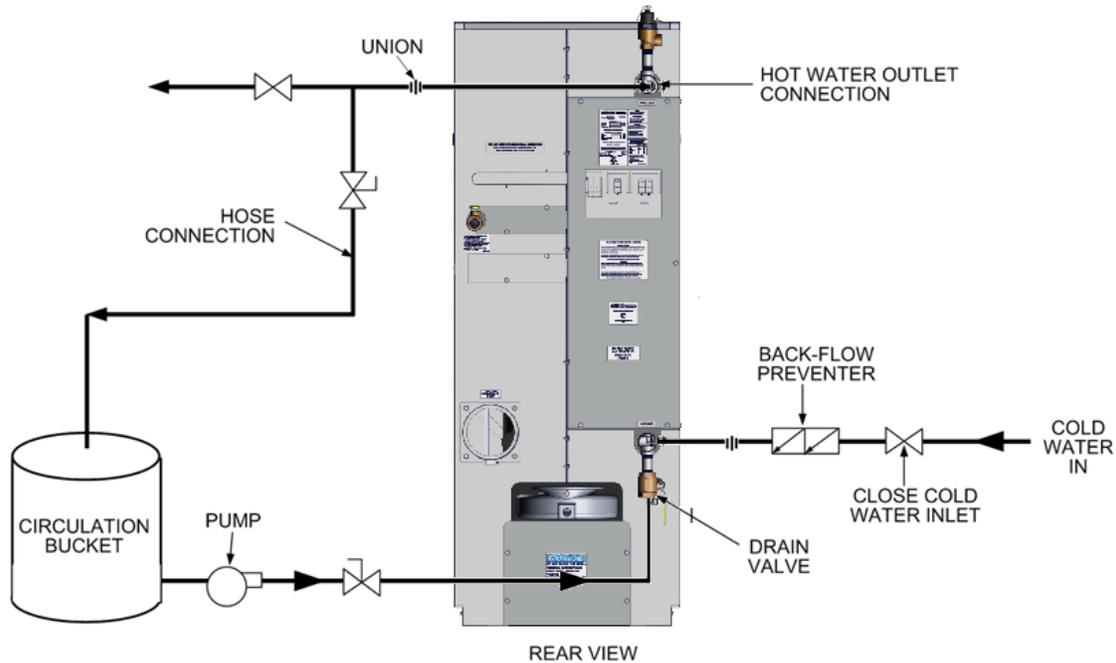

Figure 6-8. Sample Heat Exchanger Cleaning Set-Up
A sample pumping set-up diagram is shown in Figure 6-8 for an Innovation Water Heater. As this diagram shows, heat exchanger cleaning is accomplished by pumping the HydroSkrub solution from a large circulating bucket to the heat exchanger drain valve, through the heat exchanger and then out through the output connection of the heater. Set up the pumping system as follows:
- Close the unit drain valve and connect a suitable size bucket and pump to the unit drain as shown in Figure 6-8.
- Install a “T”, ball valve and hose connection in the outlet piping of the heater (Figure 6-8). Route the hose back to the top of the circulation bucket.